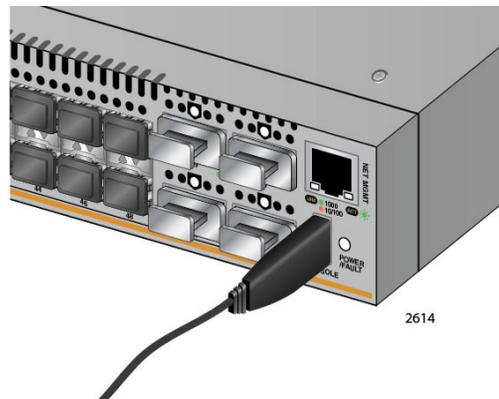

Figure 37. Connecting the Management Cable to the Console Port
1. Connect the USB connector on the management cable to the Console (USB) port on the rear panel of the switch. See Figure 37